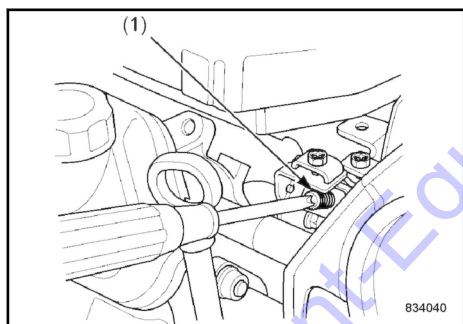

Fig. 97
Adjust the engine idling speed with the setscrew (1) ↻ Fig. 97.